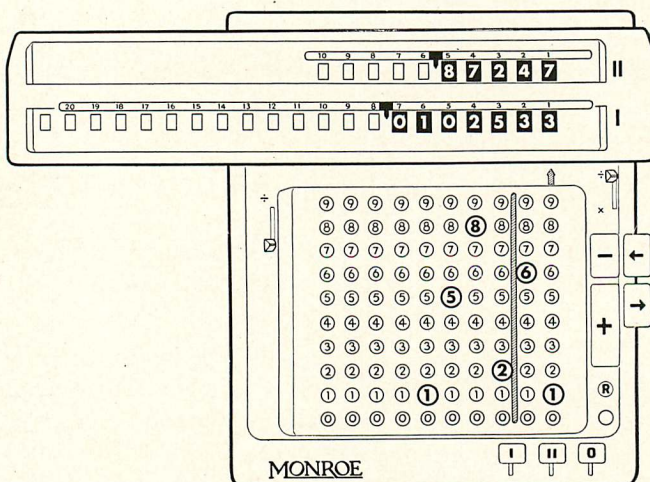

Figure 20
*Step 3*—Now the percentage of increase is figured. Shift the carriage one place to the left and divide the amount in the lower dials by the amount on the keyboard, pushing the automatic divide lever. The percentage of increase appears in the upper dials, .87247 or 87.25% (Figure 20).